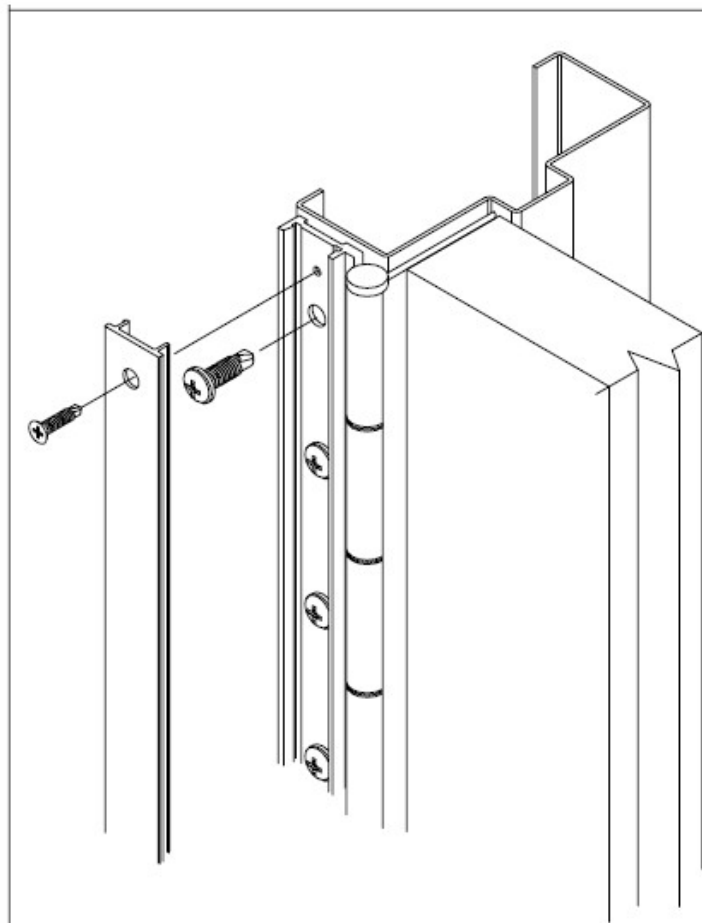

Figure 2: Installation (Exploded View)
- (7) Mark the position of the top and bottom holes with a center punch, then drill and fasten with self-drilling Tek screws.
- (8) After the top and bottom screws are installed, permanently install the frame leaf with 1/4-20 pan head self-drilling Tek screws.
- (9) Open the door and check for proper swing and alignment.
- (10) When installation is complete (see **Note** at the start of these instructions), hold the Snap-On cover squarely on the hinge leaf.
- (11) Starting at the top and working downward until the entire length of the cover is firmly engaged, tap the cover firmly using a softwood block to protect the finish from hammer blows.
- (12) With the cover firmly in place, secure it using the #8 sheet metal screw. The screw will be either at the top or bottom of the cover, depending on the hand of the door. (See Figure 2.)